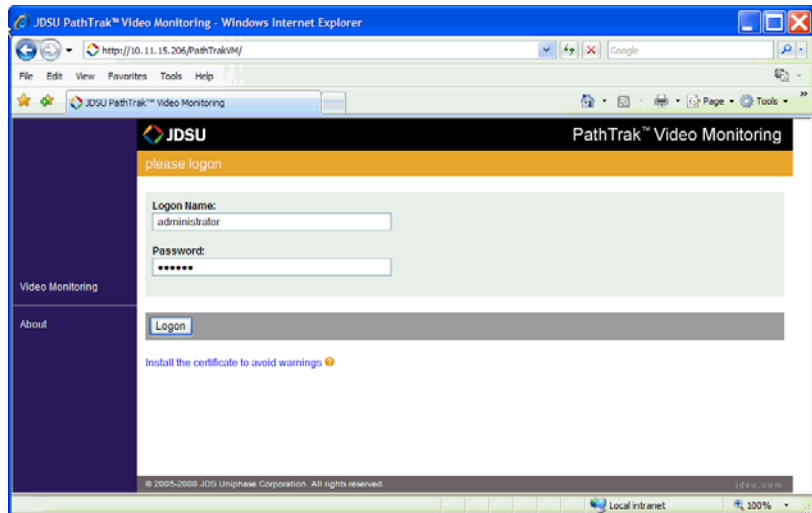

Figure 50 PathTrak™ Video Monitoring logon page
- 1 On the PathTrak™ Video Monitoring logon web page Logon Name text box (Figure 50), type **your logon name or the default logon name**.